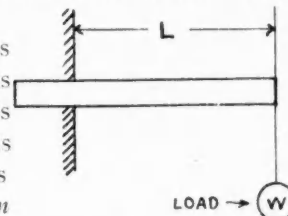

Fig. 5
**Case I (Fig. 5).—Beam Fixed at One End, Load at Other End:**